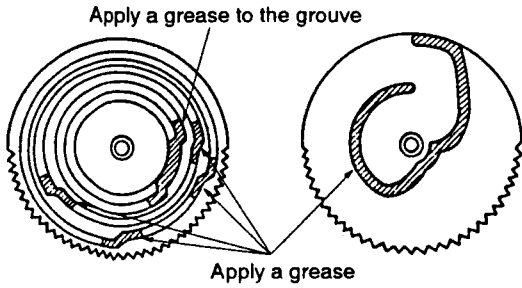

Fig. 10
① Grease the cam gear. (Fig. 10)